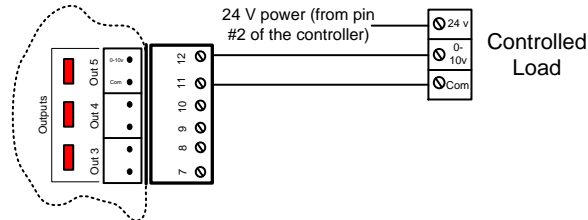

Figure 14: Connecting the analog output (controller powered)
- 1) The VC1000 powers the load and provides a control signal (see Figure 14)